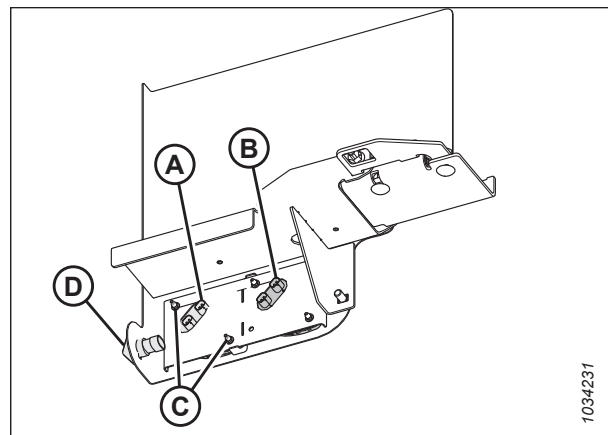

Figure 5.196: Amber and Marker Lights – Front View
7. To install turn/hazard repeater lamp (D) shown in Figure 5.196, page 356, align lamp tab (A) with the slot in the placard, gently push the lamp into the placard, and rotate it to secure it.